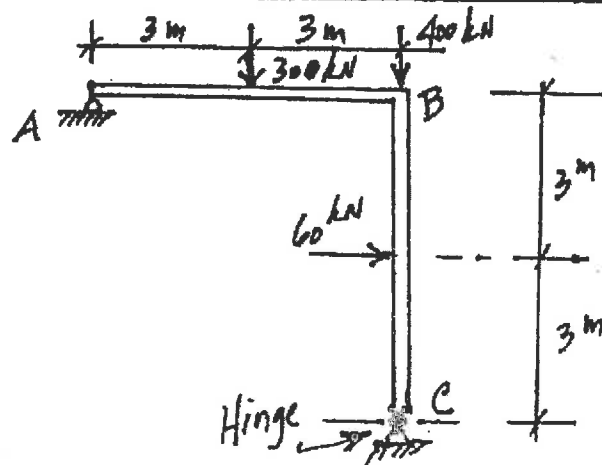

FIGURE B2
- B2. Figure B2 shows the profile of a determinate reinforced concrete frame, ABC. Design a rectangular cross-section and the reinforcing for flexure and shear for beam AB. Show the layout of the reinforcement. Use $f'_c = 35$ MPa and $f_y = 400$ MPa.
- B3. For the determinate reinforced concrete frame, shown loaded in Figure B2, design a square cross-section and the corresponding reinforcing for the column BC. Assume the column is short, pinned at C and monolithic at B. Use $f'_c = 35$ MPa and $f_y = 400$ MPa.